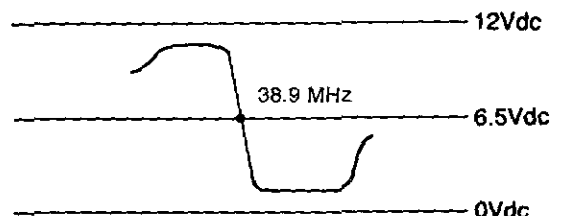

Figure 11
- (1) Change the coupling of the input terminal of the alignment scope from the pin 22 to the pin 17 of P101.
- (2) Adjust the sweep waveform of the alignment scope as shown in figure 11.
- (3) Adjust L104 to place the 39.5 MHz marker at the position or D.C. $6.5 \text{ V} \pm 0.5 \text{ V}$ as shown in figure 11. At that time the alignment scope must be able to measure D.C. voltage and the AFT switch of the receiver must be located at ON-position. Be sure to adjust after disconnecting C164 from the AFT terminal.